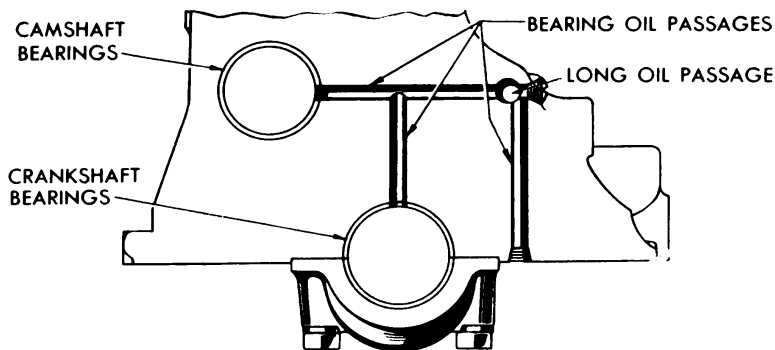

Figure 67—Crankshaft and Camshaft Bearing Oiling
a. It is lubricated by oil drawn from the oil pan by the oil pump (figure 66), and forced under pressure through drilled passages in the cylinder block to the crankshaft and crankshaft bearings. (Figure 67.)